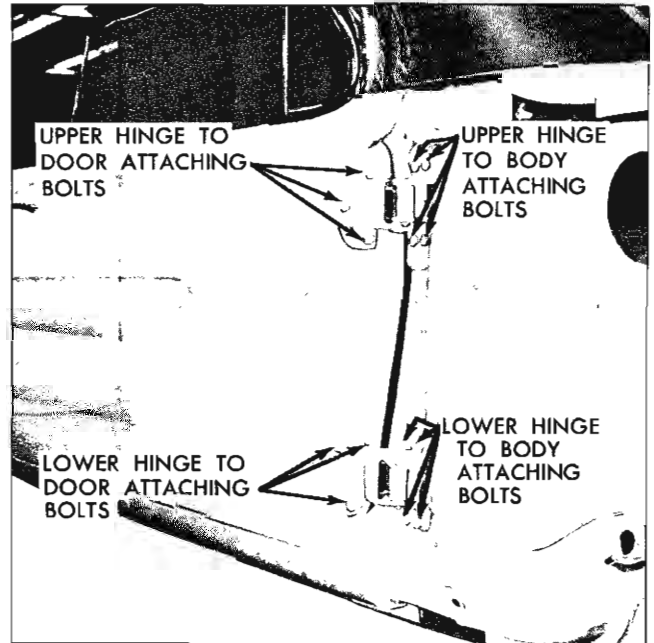

Fig. 3-22 Front Door Hinges
5. With door properly supported, remove bolts securing upper and lower hinges to front body hinge pillar or door hinge pillar. With aid of a helper, remove door from body. (Fig. 3-22).